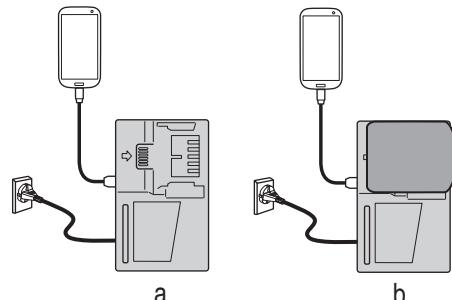

Fig. 14
- Charging a USB device from a electrical outlet. (Fig. 14-a)
- Charging a USB device and battery from a electrical outlet. (Fig. 14-b)